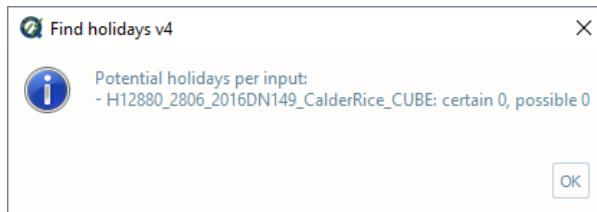

Fig. 2.19: The output message at the end of **Find holiday v4** execution.
- After computing, the output window opens automatically, and the results are shown (Fig. 2.19).